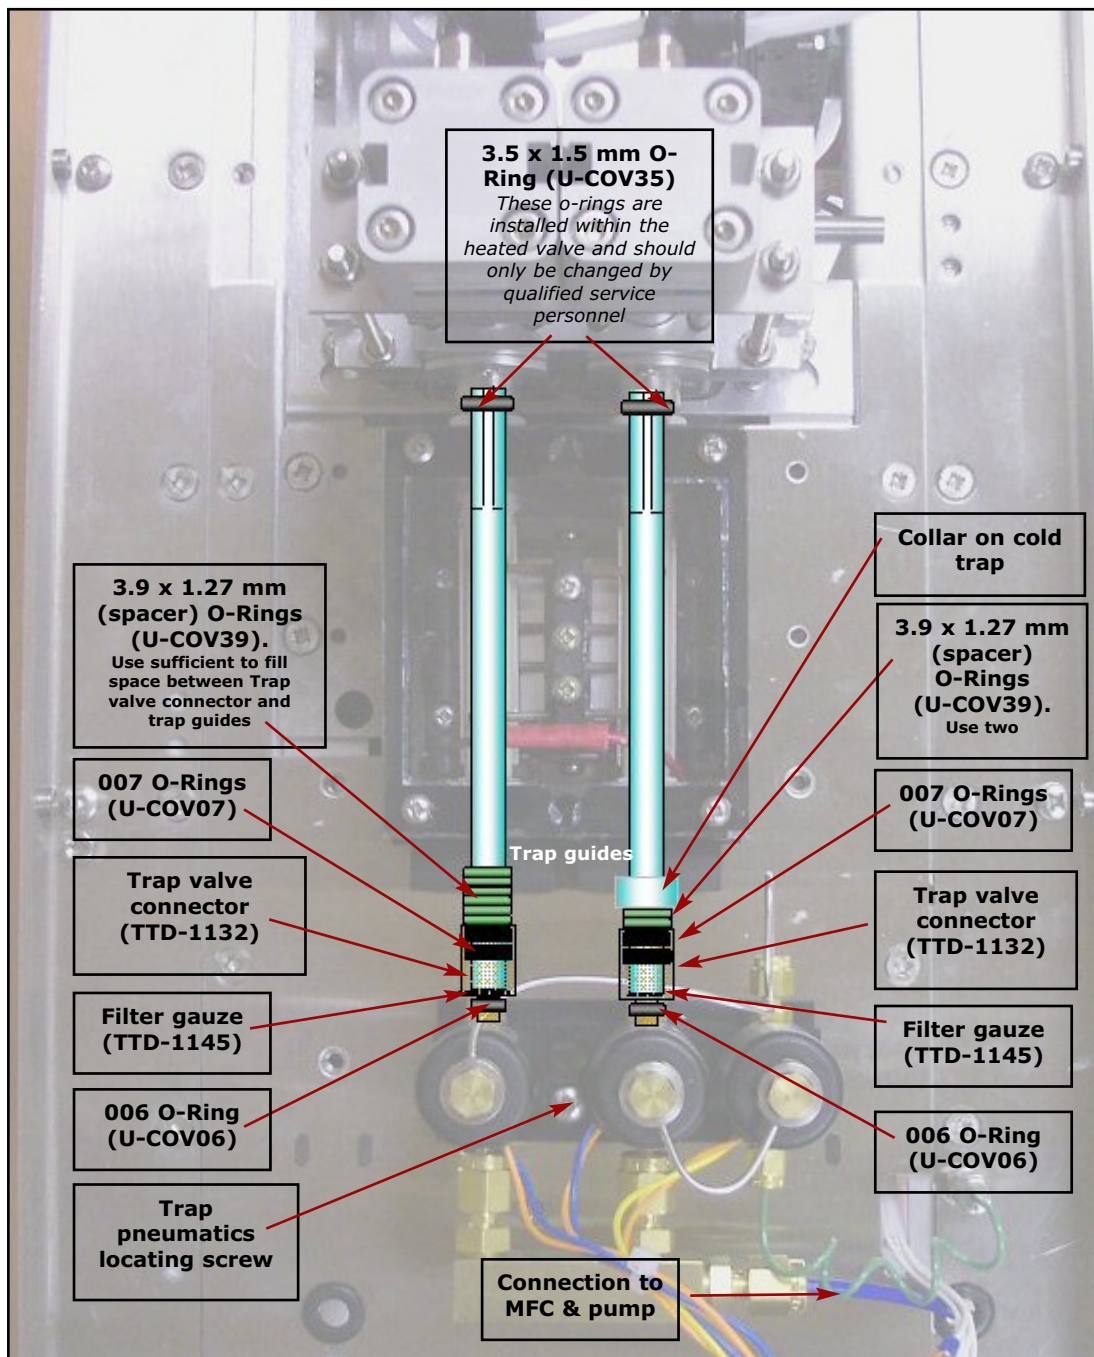

Figure 86. TT24-7e1 with overlaid schematic showing trap positions and user serviceable parts
Refer to Figure 86.
- For old-style uncollared traps use a sufficient number of o-rings to fill the space between the trap valve connector and the trap guides (see figure 86)
Refer to Figure 86